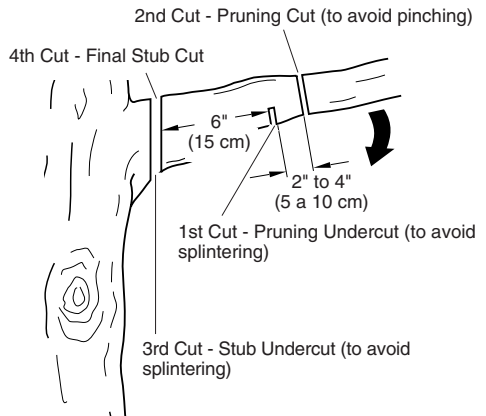

Figure 17 - Cutting A Limb
1. Make first cut six inches from tree trunk on underside of limb. Use top of guide bar to make this cut. Cut 1/3 through diameter of limb (see Figure 17).